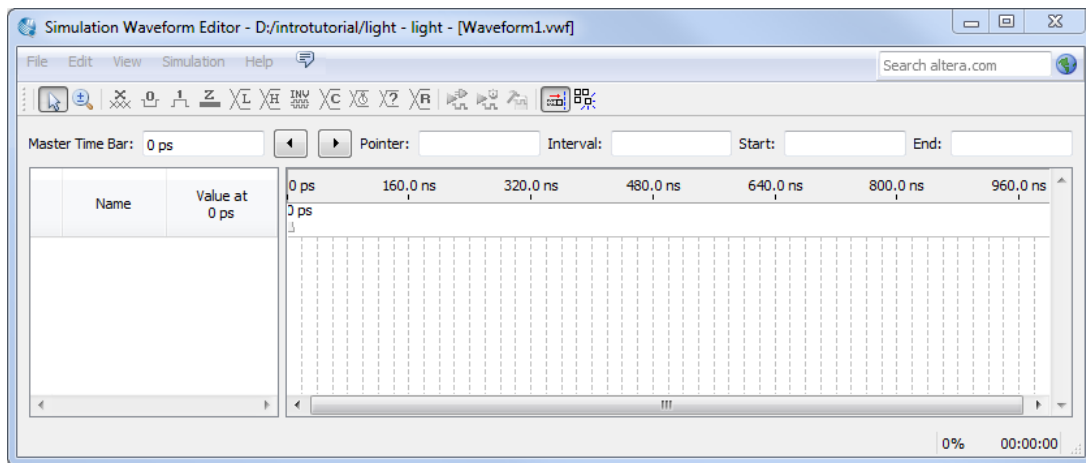
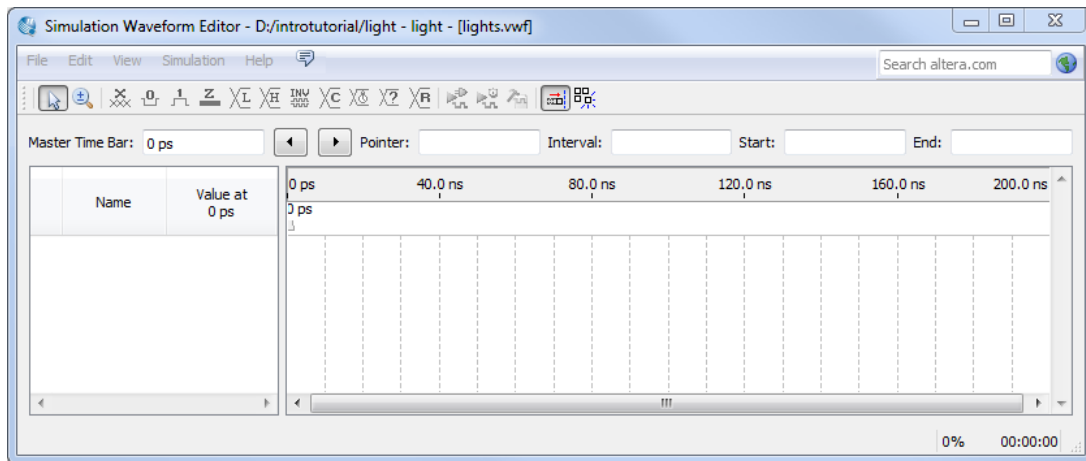

Figure 29. The Waveform Editor window.
Figure 30. The augmented Waveform Editor window.
2. The Simulation Waveform Editor window is depicted in Figure 29. Save the file under the name *light.vwf*; note that this changes the name in the displayed window. Set the desired simulation to run from 0 to 200 ns by selecting **Edit > Set End Time** and entering 200 ns in the dialog box that pops up. Selecting **View > Fit in Window** displays the entire simulation range of 0 to 200 ns in the window, as shown in Figure 30. You may wish to resize the window to its maximum size.